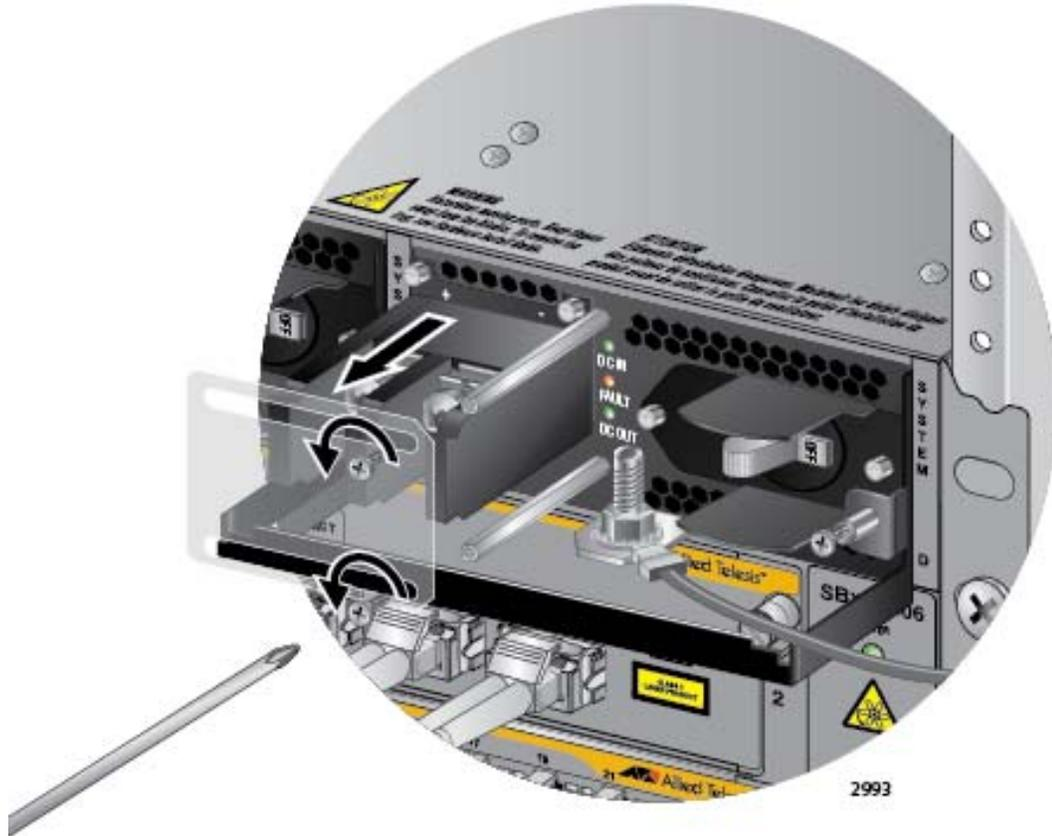

Figure 124. Removing the Plastic Cover
- Using a #1 Phillips-head screwdriver, remove the two screws that secure the plastic cover over the positive and negative terminals and remove the plastic cover from the power supply, as shown in Figure 124. You may need to lift the locking handle slightly to access the bottom screw.